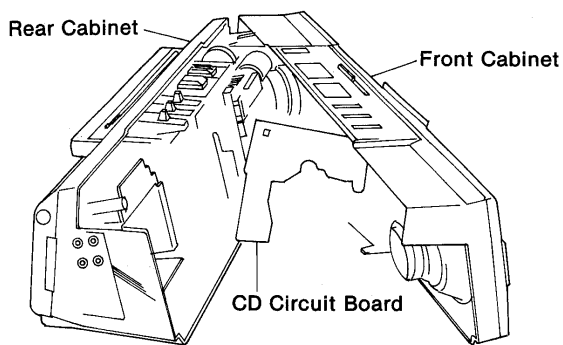

Fig. 5
10. After connecting the CN103 socket, set the corner of the front cabinet on the corner of the rear cabinet. (Fig. 5)